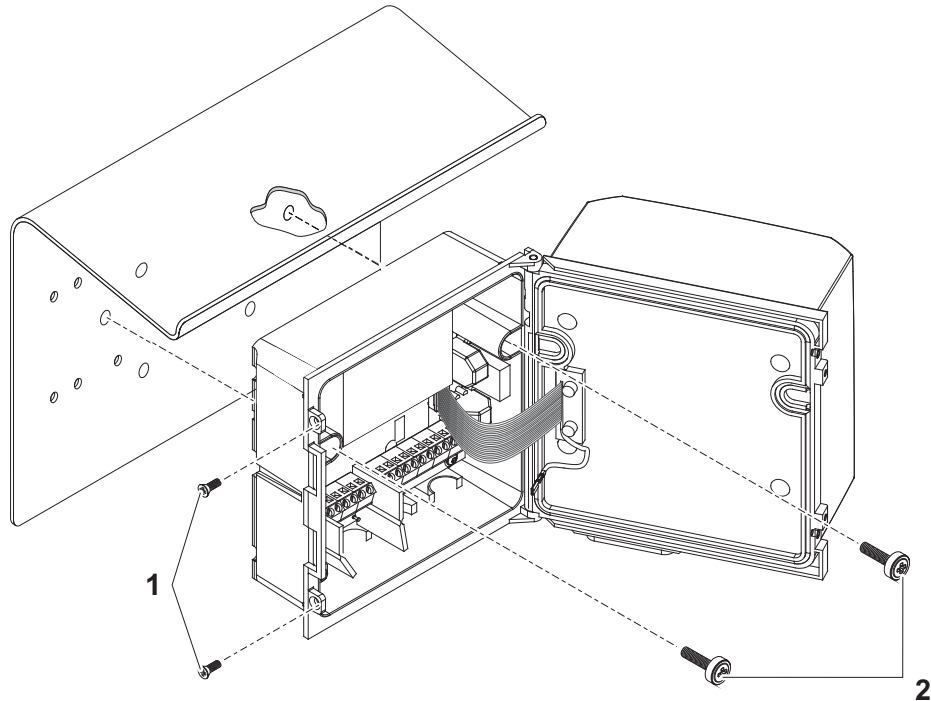

Fig. 3-8 Mounting the DIQ/S 28X with sun shield SD/K 170
- 1 Remove the two countersunk screws (pos. 1 in Fig. 3-8) and swing open the module lid.
- 2 Position the universal transmitter on the sun shield and fix it into place with the two screws (pos. 2 in Fig. 3-8).
- 3 Close the lid and fix it with the two countersunk screws (pos. 1 in Fig. 3-8).